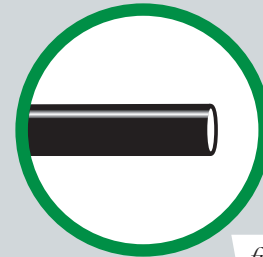

fig. E.1
When cutting air lines, use a sharp knife or a hose cutter and make clean, square cuts (Fig. E.1). Do not use scissors or wire cutters because these tools will deform the air line, causing it to leak around fittings. Do not cut the lines at an angle.
1. If there is a problem with the push-to-connect fitting, remove the air line as described above. Trim 1" (25mm) off the end of the air line. Be sure the cut is clean and square (see Fig. E.1).